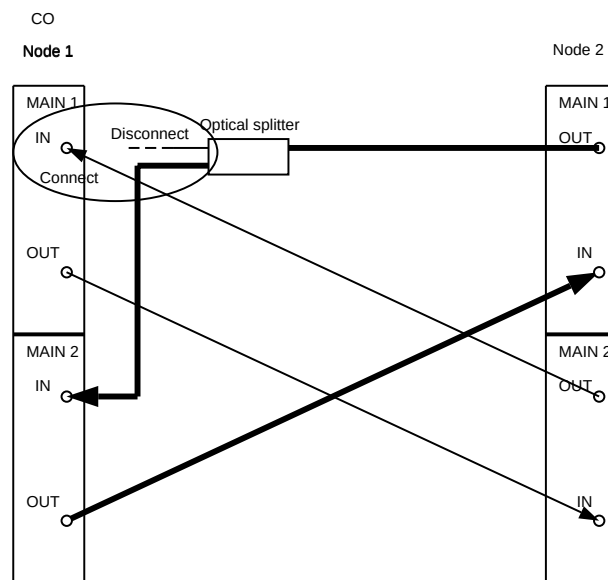

Figure 13. DDM-2000 OC-3 Point-to-Point to Ring Upgrade
23. At Node 1, remove optical splitter output from **MAIN 1 IN** and connect optical fiber from Node 2 **MAIN 2(P) OUT** to Node 1 **MAIN 1 IN**. (See Figure 13.)